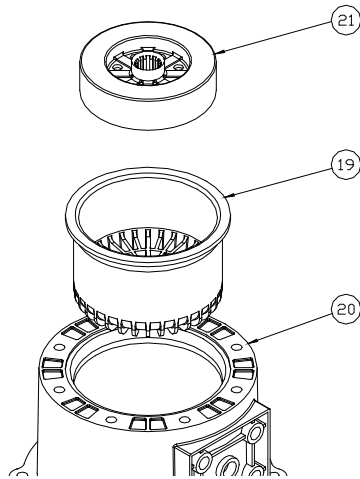

Figure 40
2. For non-metallic pumps, insert containment can (item 19) and driven magnet (item 21) into motor spool (item 20) as shown in Figure 40. The driven magnet is symmetrical and orientation does not matter.